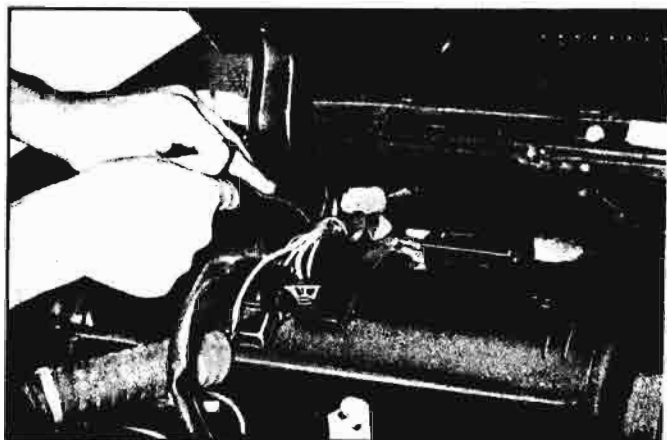

Fig. 11-18—Loosening Heater Straps
3. Remove three screws holding heater straps in place, and push straps to the rear, bending them away from the heater case (fig. 11-18).